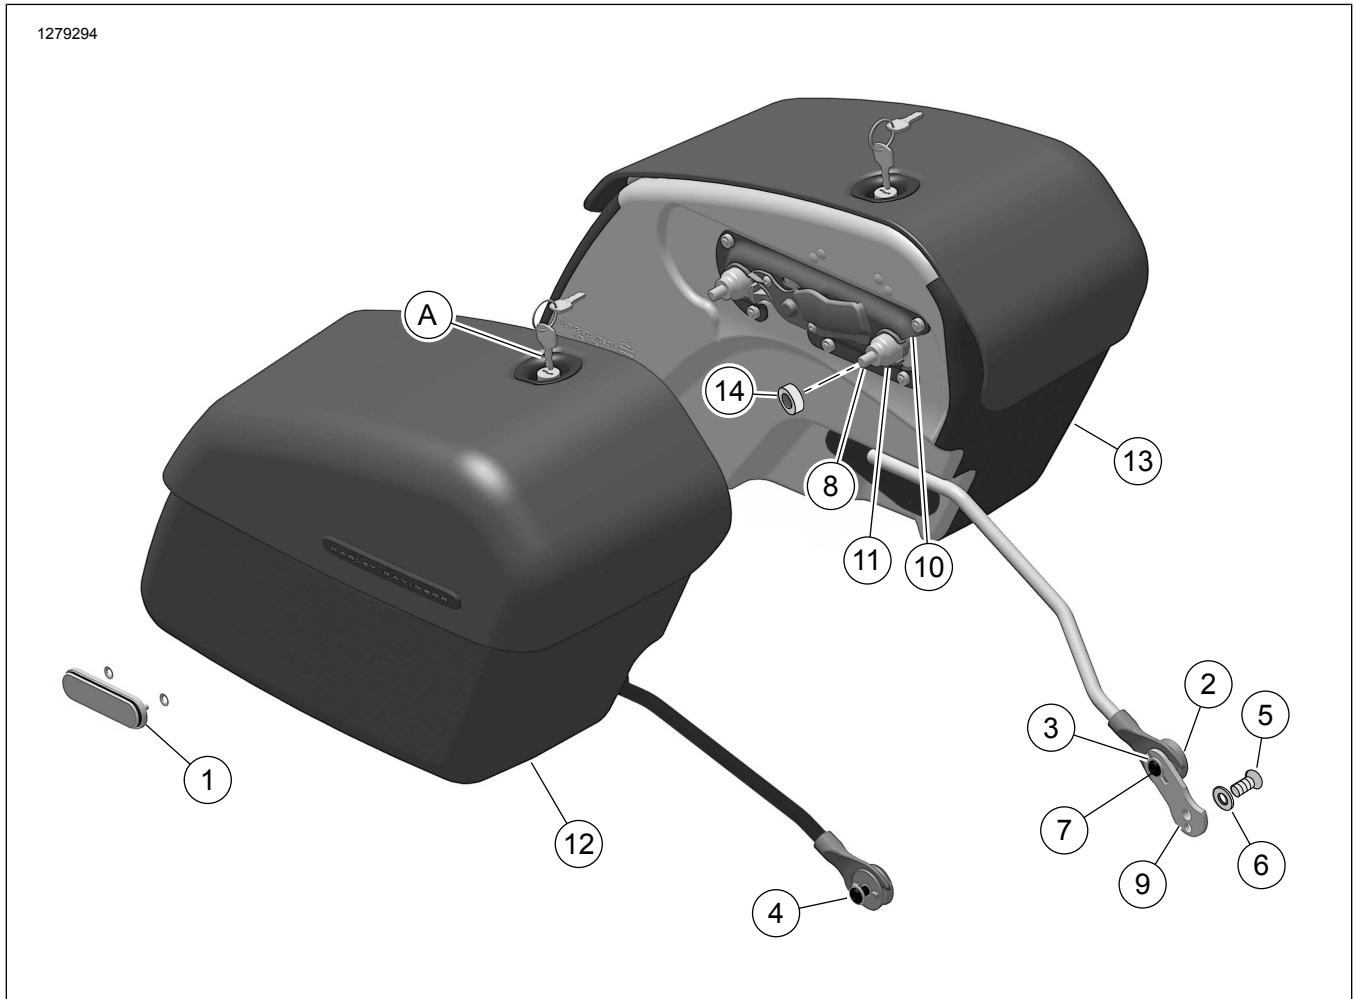

Figure 1. Kit Contents: Detachable Saddlebag Kits
See Figure 1 and Table 2.
1. See Figure 1. Open saddlebag.